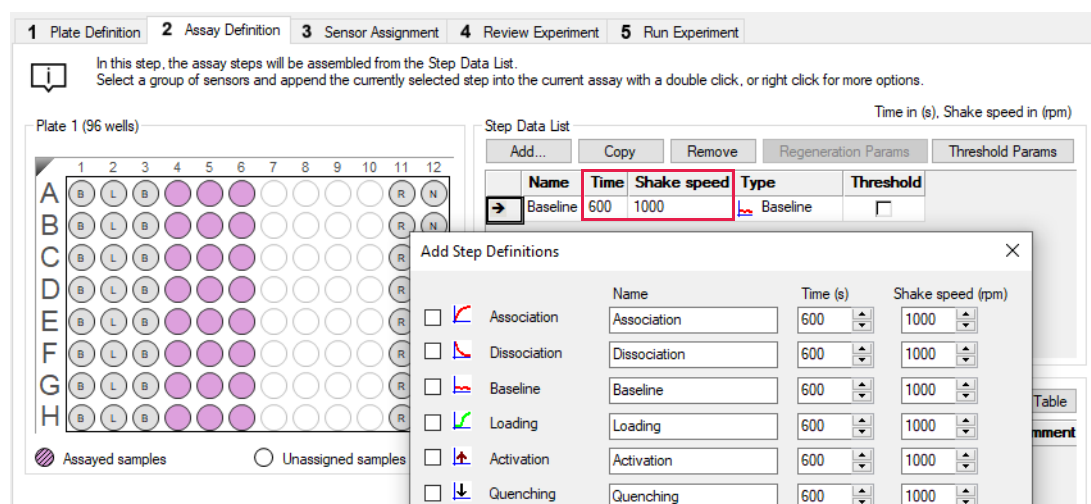

Figure 9-25: Creating an Assay Step Type
Click the **Assay Definition** tab, or click the  arrow to access the Assay Definition window (Figure 9-25). The **Step Data List** shows the types of assay steps that are available to build an assay. By default, the list includes a baseline step.
2. In **Assay Step Definition** dialog box (Figure 9-25), specify the step information: